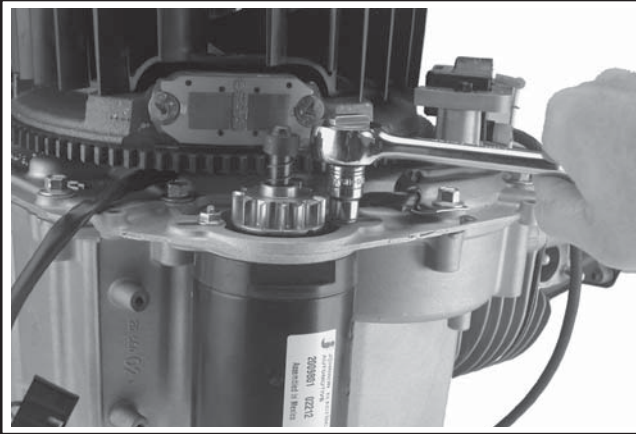

Figure 8-6. Removing Electric Starter.
2. Remove the two hex flange nuts securing the starter to the closure plate. Remove the starter. See Figure 8-6.